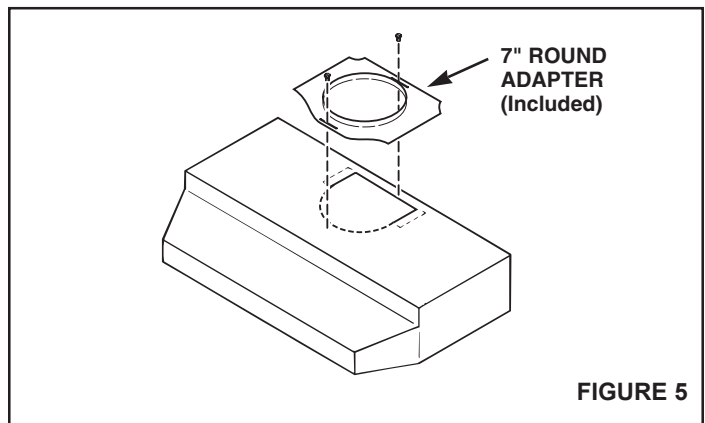

FIGURE 5
2. **For 7" round discharge installation, refer to FIGURE 5.** Secure 7" adapter (included) to top of hood using screws provided. Install 7" round damper (Model BP87, purchased separately).